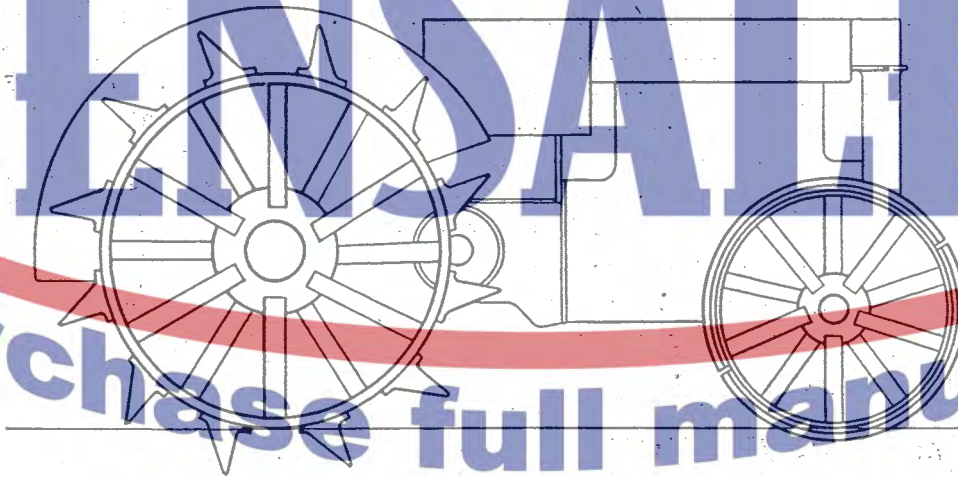

Fig. 1. Spade Lug Equipment.
B. Lugs—Fig. 1.
Put spade lugs on drive wheels. Steel spade lugs, $4\frac{1}{8}$ " high, as shown at A, Fig. 1, are regularly furnished. As special equipment, $5\frac{3}{4}$ " high cast spade lugs, B, Fig. 1, chilled on the slanting face, can be furnished on order. The cast lugs should be put on, as shown in Fig. 1. Note that the slanting or chilled face of lugs is toward the rear when lugs are in contact with ground.
C. Skid Rings—Fig. 1.